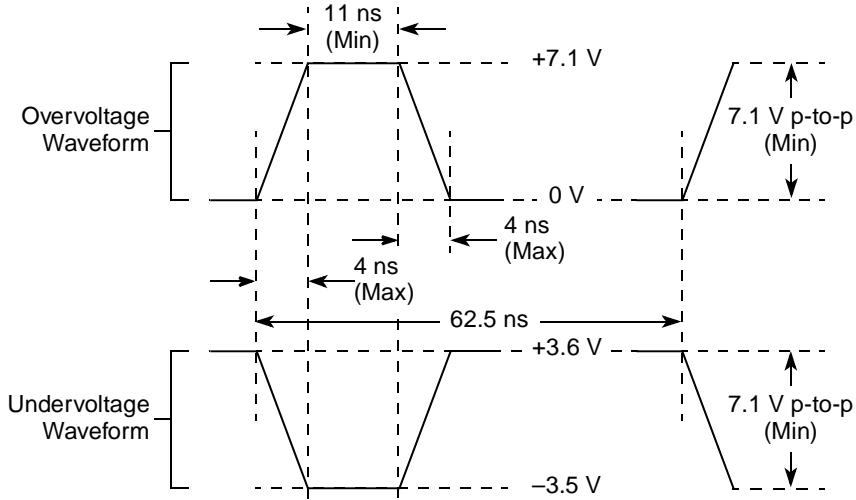

Figure 3. Maximum AC Waveforms on PCI Interface for 3.3-V Signaling
- O_{V_{IN}} on the PCI interface may overshoot/undershoot according to the PCI Electrical Specification for 3.3-V operation, as shown in Figure 3.
Figure 3 shows the undershoot and overshoot voltage of the PCI interface of the MPC8323E for the 3.3-V signals, respectively.